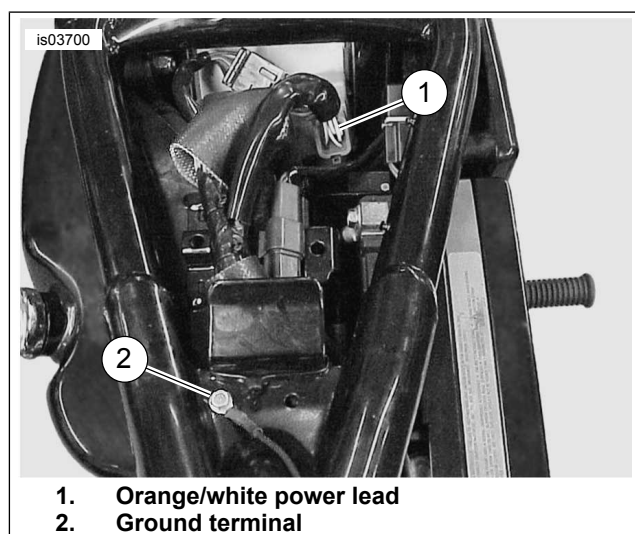

Figure 4. Wire Harness and Ground Location Under 2003 or Earlier XL Seat
3. Route the orange/white power lead lead underneath and down a rear frame rail to the power location for the year and model. **For 2004 and later XL:** Behind the left side cover, locate the orange/white power lead from the main harness to the diagnostic pin connector [91A]. **For 1996 to 2003 XL:** See Figure 4. A main harness orange/white power lead inside the side cover or under the seat to power the gauge. **For 2004 and later Dyna:** The fuse block inside the left side cover will be fitted with an adapter to the fuse socket labeled OPEN to provide a main harness power lead. **For 1996 to 2003 Dyna:** Locate the orange/white power lead in the taillamp harness pin connector (7A) under the seat. **For 2004 and later Softail:** The fuse block under the seat behind the battery will be fitted with an adapter to the fuse socket labeled P&A IGN to provide a main harness power lead. **For 1996 to 2003 Softail:** Locate the orange/white power lead in the taillamp harness pin connector (7A) under the seat behind the right rear corner of the battery. **For 2004 and later FLHR:** The fuse block will be fitted with an adapter to the fuse socket labeled P&A IGN to provide a main harness orange/white power lead. **For 1996 to 2003 FLHR:** A main harness orange/white power lead inside the right side cover near the top.